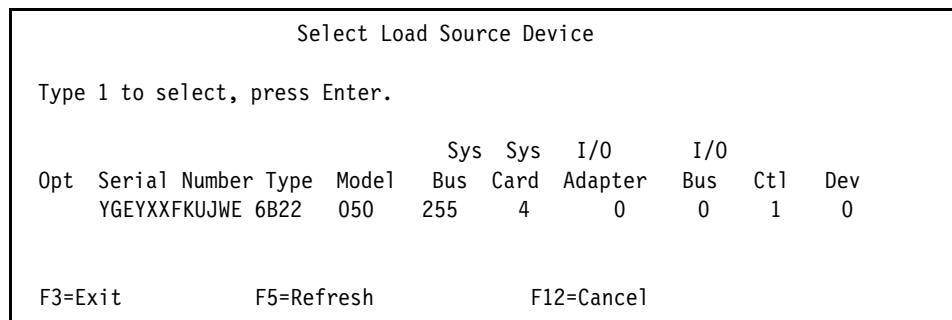

Figure 11-16 Selecting the Load Source device
6. Select the Load Source device in the next window, as shown in Figure 11-16. Press Enter. If more than one disk was assigned to the IBM i virtual server, choose the disk with the lowest Controller number as a rule of thumb for the load source device. Press F10 to confirm your choice.